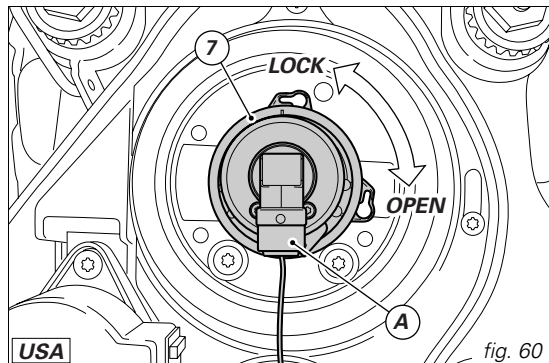

fig. 60
To remove the low beam bulb (7), detach the connector (A) from the wiring, then turn the bulb counter-clockwise to remove it (fig. 60). Replace with a bulb of equal rating. When fitting the new bulb turn it clockwise to lock it in the holder.